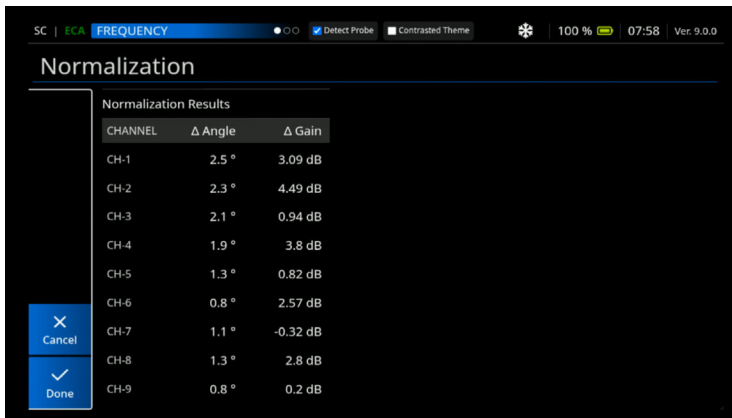

Figure 4-64 Validate Normalization
9. Check the coherence of the normalization process and press **Done** to validate, or **Cancel** to abort (See Figure 4-64 on page 166).